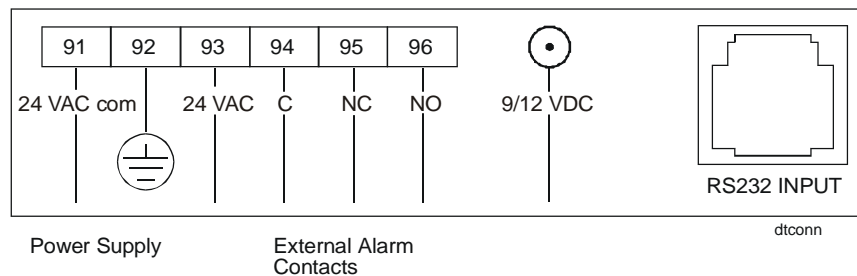

Figure 3-11: Connectors
2. The serial communications cable has a telephone-type connector on each end. Plug one end of the cable into the phone jack labeled RS232 INPUT on the DX LCD Display (Figure 3-11).
6. The VDC supply voltage already available at the DX controller can power the DX LCD Display. Wire a supply voltage cable to Pins 91-93, using the 24 VAC pin assignments shown in Figure 3-11.